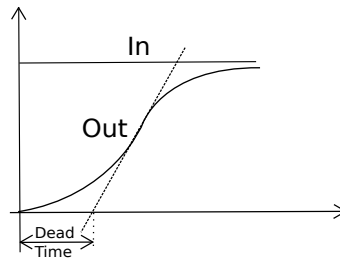

Figure 2: How to estimate dead time of a second-order system
- Lambda tuning requires us to measure the dead time of the process, this can be performed as illustrated in figure 2 and on page 197 in Thomas. First, find the steepest part of the step response curve. Second, draw a tangent to this part of the curve. Last, measure the time between the intersection of the tangent with the x-axis and the point of the step in the input signal. This time is an approximation of the dead time.
- Ziegler-Nichols tuning requires estimation of amplitude margin and of ω_π . This can be quite time consuming using repeated step response measurements. Furthermore, a second order process without dead time, like ours, has infinite amplitude margin which makes such a measurement impossible. An alternative method is to approximate the process with a first-order plus dead time model, $G_P(s) = e^{-Ls} \frac{K_P}{1+sT_p}$. Estimate the dead time and time constant as illustrated in Figure 2, also estimate the amplification and then get A_m and ω_π from Matlab. Use the following matlab commands to calculate A_m and ω_π .